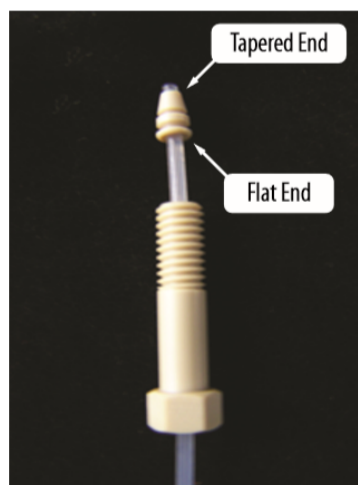

Figure 5: *Tan Ferrule* with tapered end away from *Nut*.
- **Note: For guidance on the orientation of Ferrules, see Figure 5.**